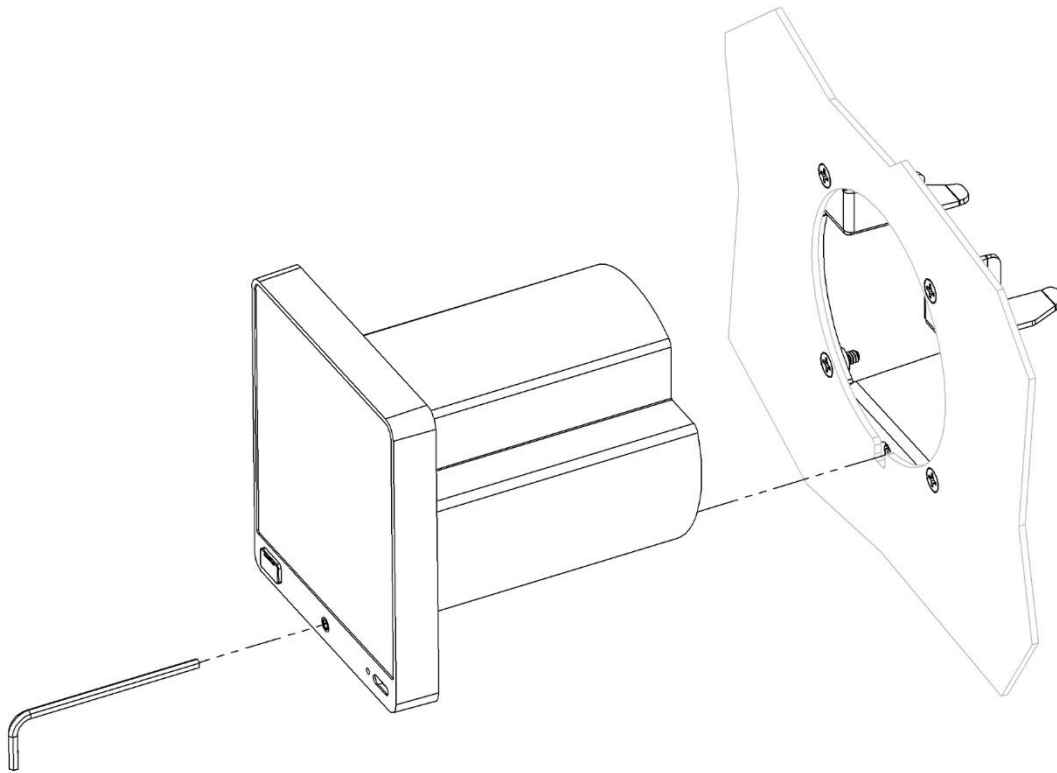

Figure 11: Unit Removal/Re-installation
2. Use 3/32" hex wrench to loosen retaining screw that secures unit to mount bracket (see Figure 11).
10. Use 3/32" hex wrench to tighten retaining screw that secures unit to mount bracket (see Figure 11). Tighten retaining screw to 3-5 lbs.
7. Use 3/32" hex wrench to tighten retaining screw that secures unit to mount bracket (see Figure 11). Tighten retaining screw to 3-5 lbs.